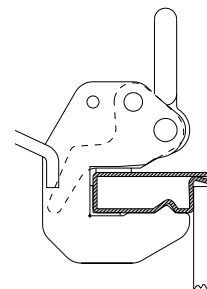

Fig. 38.4
3. Release the safety lever and press it back to its start position so that the crane hook is locked completely (Fig. 38.4).